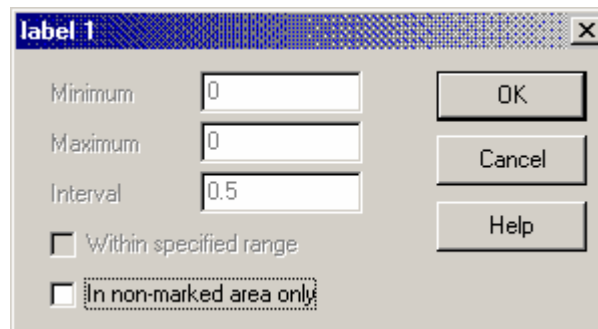

Figure 16: Contour pop-up window (1)
4. You will first see the following pop-up window (Figure 16):